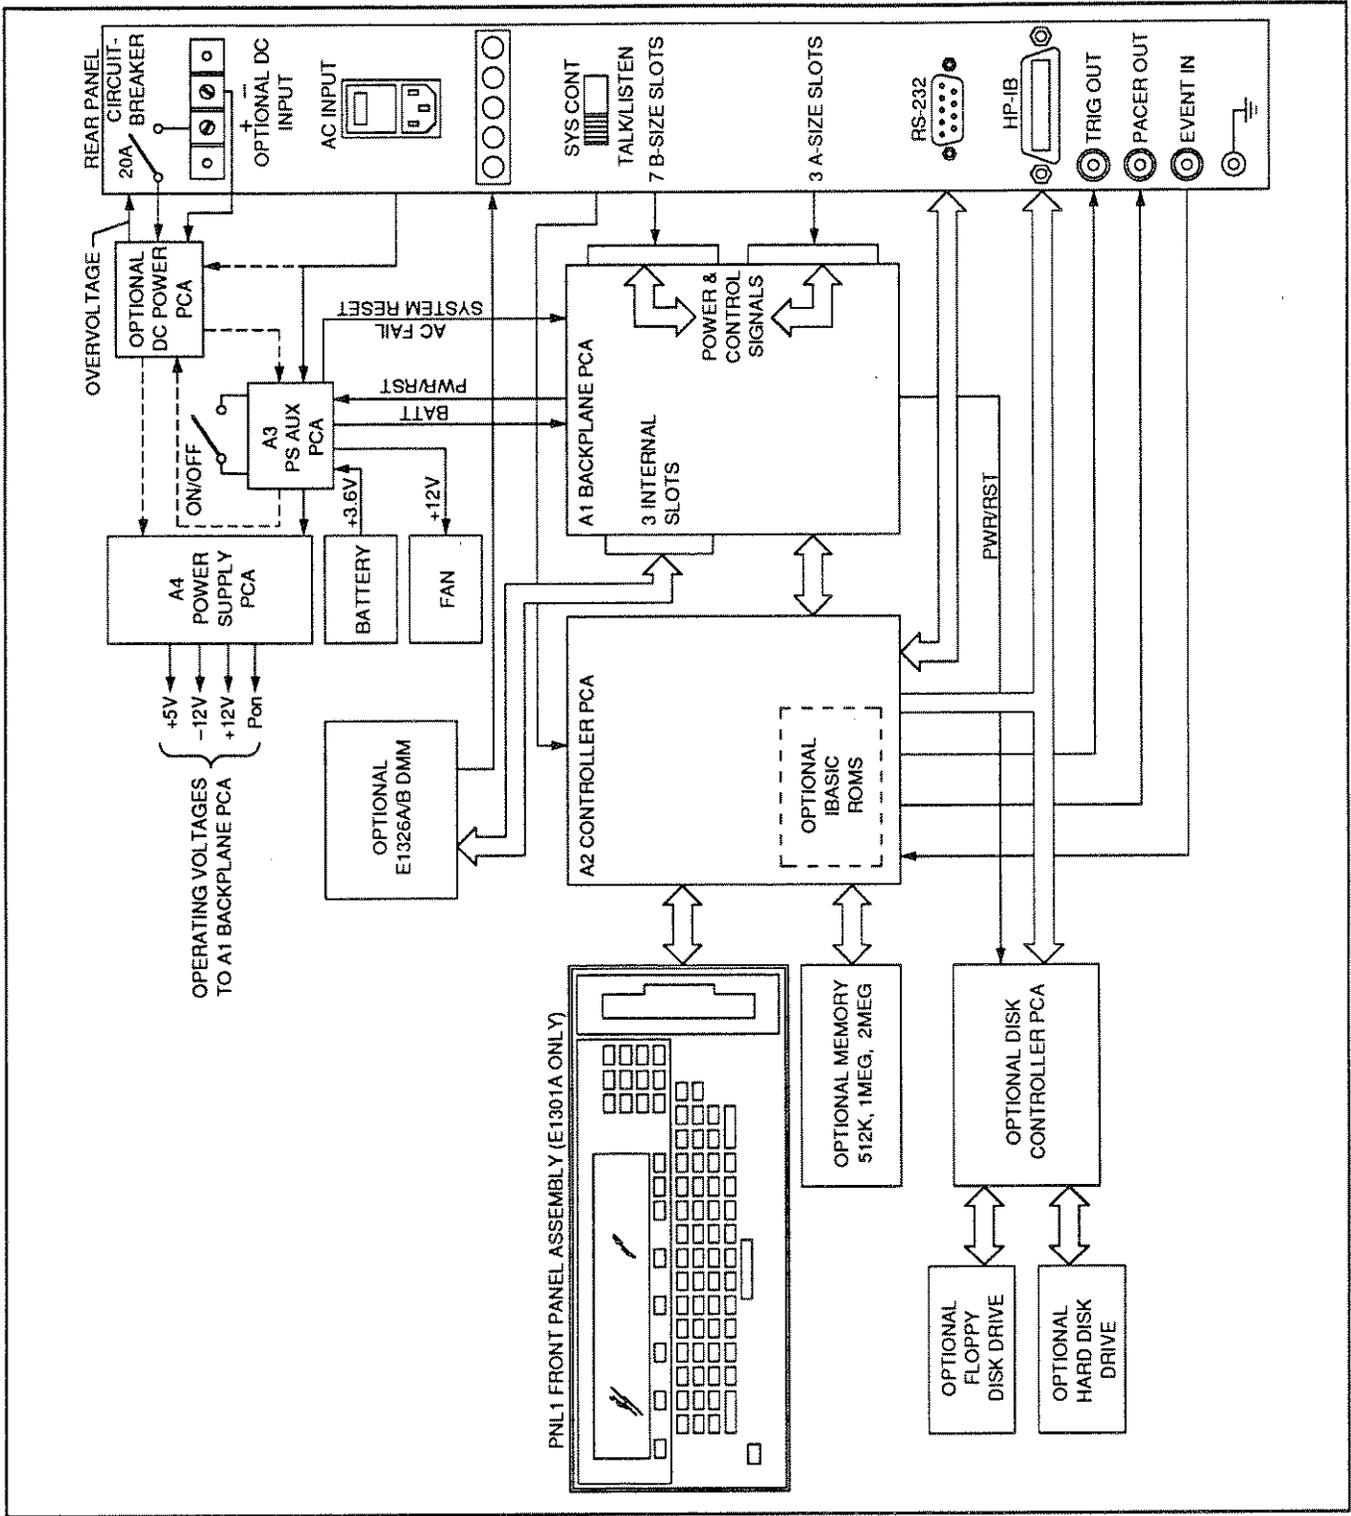

Figure 8-1. HP E1300A/E1301A Mainframes Block Diagram
**General** The mainframe has six major assemblies, each of which perform a specific task. See Figure 8-1 for a block diagram of the mainframe.
In addition to the six major assemblies within the mainframe, a number of electrical options are also available. Optional assemblies are illustrated in Figure 8-1.